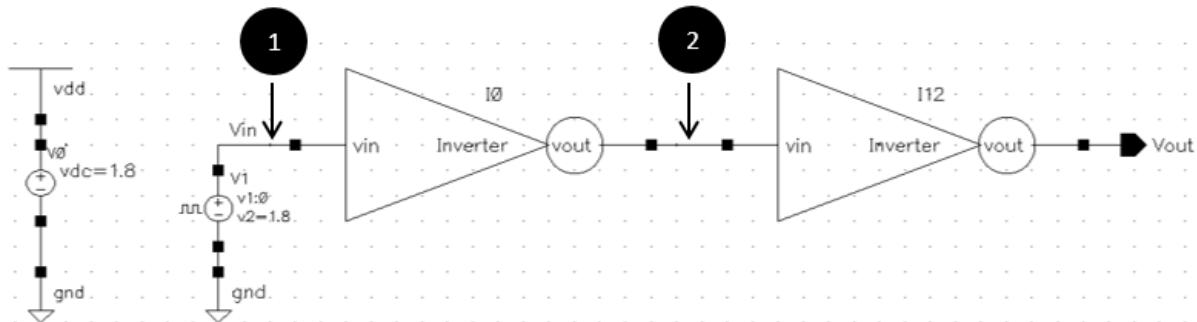

Figure 6.2: Inverter Test Schematic
Build the test schematic based on Fig.6.2 using the specification given in Table.1.1.
- (b) Go to schematic and select the output terminal of the 1st Inverter (Marked as **2** in Fig.6.2) to plot.